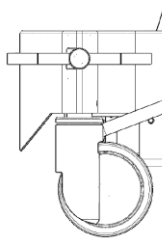

Figure 19
- 1) Make sure that the shower trolley brake pedal is in the central position (see figure 19)